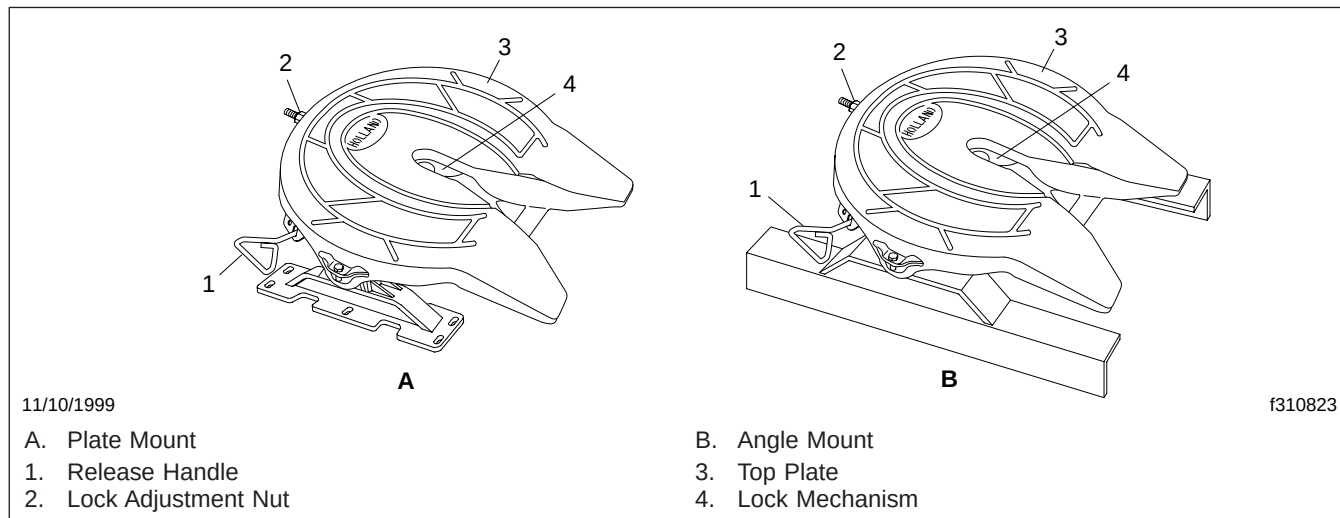

Fig. 10.1, Holland 3500 Series Fifth Wheels
Holland 3500 Series stationary fifth wheels are best suited for applications where the axle loading, kingpin setting, and vehicle combination length all remain constant throughout the fleet. The stationary fifth wheel can be a plate mount or an angle mount. See Fig. 10.1.
6. Release the kingpin locking mechanism by pulling the release handle (Fig. 10.1) all the way out.